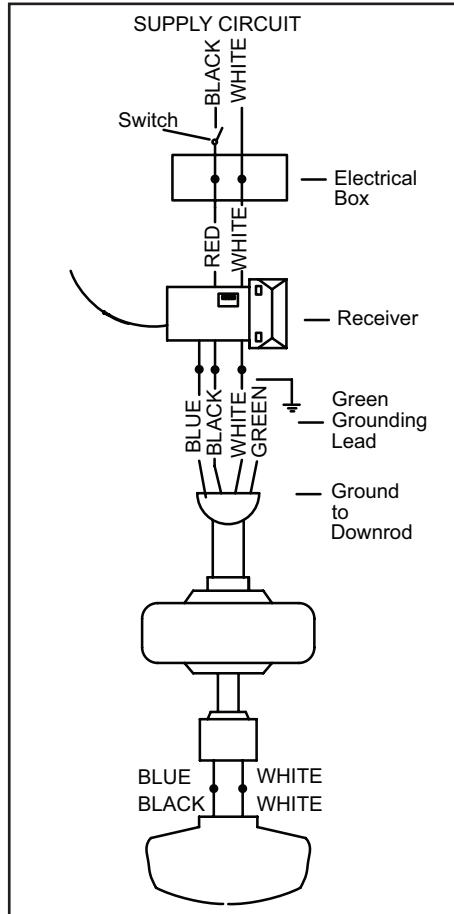

Figure 13
Follow the steps below to connect the fan to your household wiring. Use the wire connecting nuts supplied with your fan and supplied with remote control. Secure the connectors with electrical tape. Make sure there are no loose strands or connections (Figure 13).
1. Connect the ground conductor of the 120v supply (this may be a bare wire or a wire with green colored insulation) to the green ground lead(s) of the fan (Figure 13).
2. Connect the fan motor white wire to the receiver white wire using a wire nut (Figure 13).
3. Connect the fan motor black wire to the receiver black wire using a wire nut (Figure 13).
4. Connect the fan motor blue wire to the receiver blue wire using a wire nut (Figure 13).
5. Connect the receiver red wire to the supply black (hot) wire using a wire nut (Figure 13).
6. Connect the receiver white wire to the supply white wire (neutral) wire using a wire nut (Figure 13).